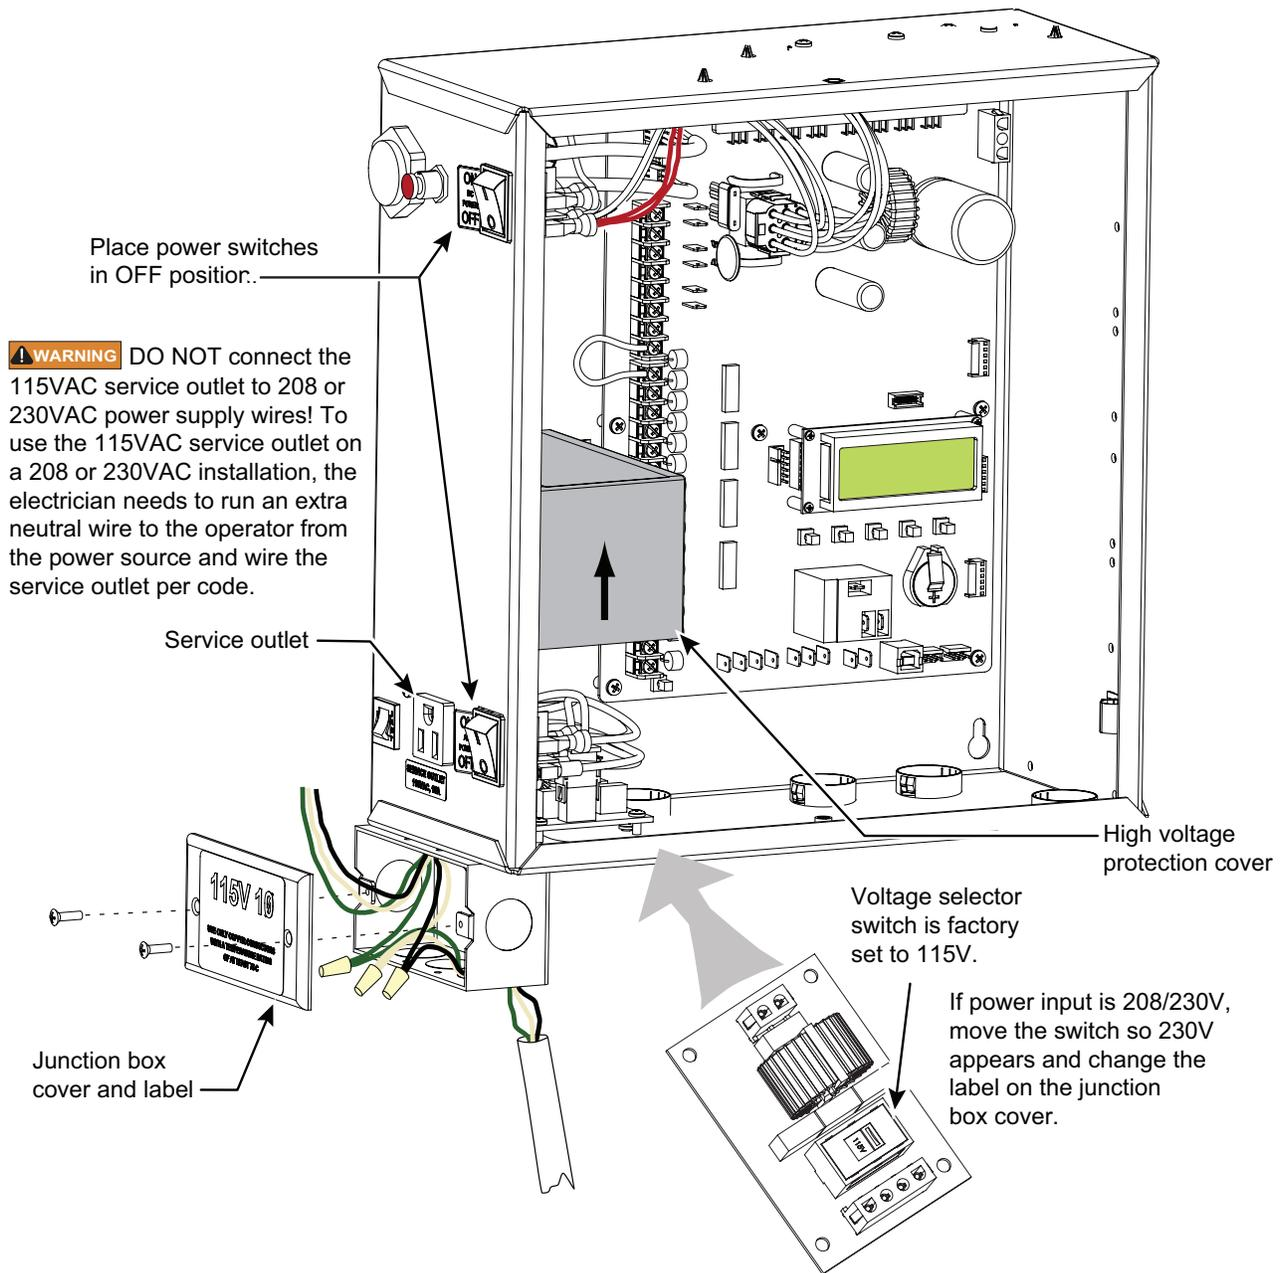

Figure 18. Wiring AC Power
2. Access the input power wires and service outlet wires by removing the two Phillips-head screws that secure the high voltage junction box cover. See Figure 18.